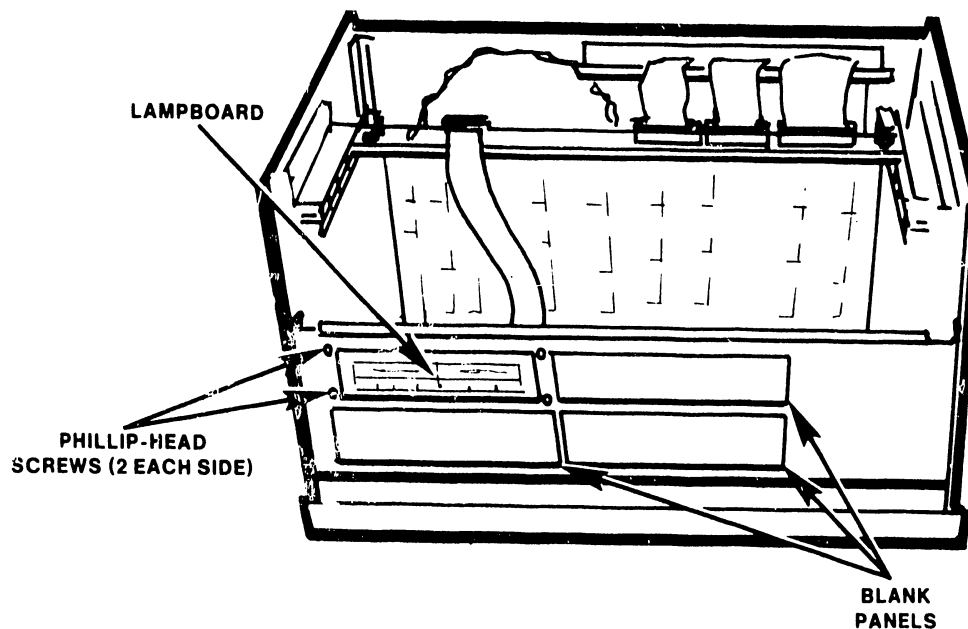

Figure 4-30 Lamp Board Installation
2. Access lamp board cable and feed the cable through the appropriate lamp board slot (Figure 4-30). The cable will be connected to the TC controller per the TC controller PCB Installation procedure (Paragraph 4.7.3.6).